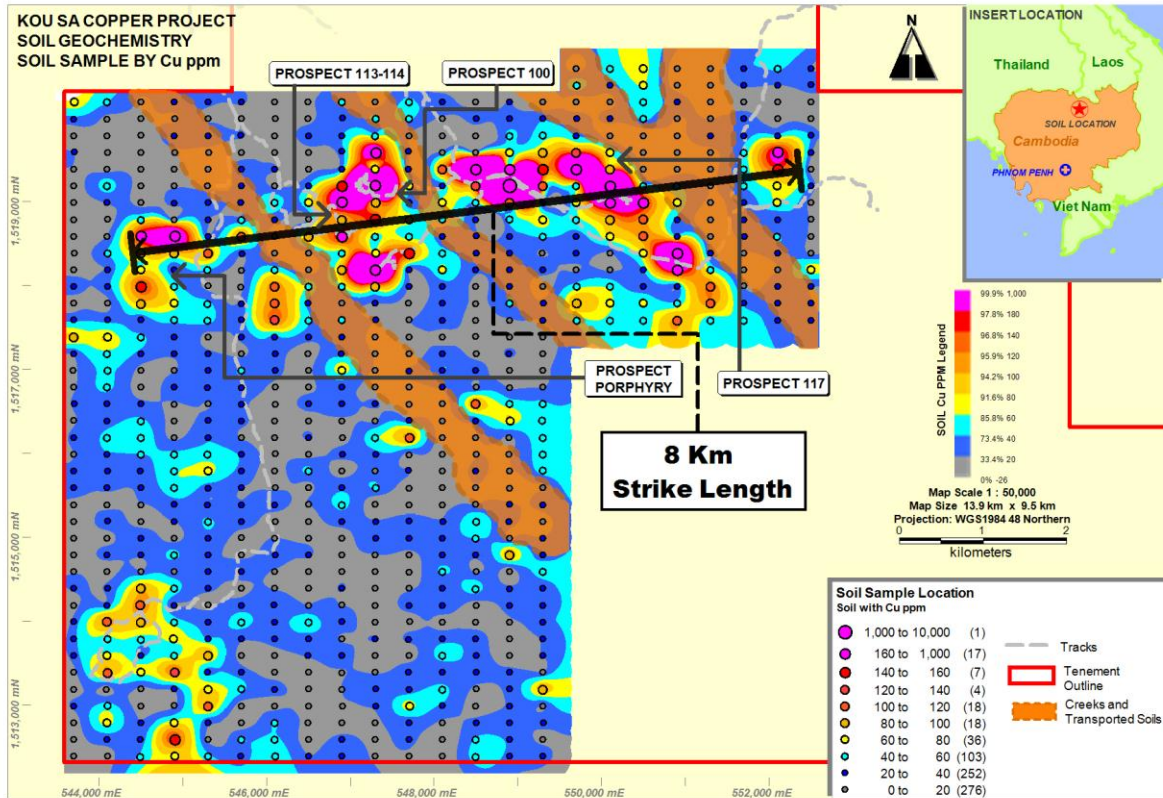

Figure 1: Kou Sa soil geochemistry survey results indicating an 8km long east-west anomalous trend.
Analysis of the geochemical survey results indicates a cohesive eight (8) kilometre long anomalous trend and several other significant but smaller anomalous zones. The main zone connects the areas previous drilled which indicates the effectiveness of the sampling method. In addition the survey results extend beyond these areas in both directions to form a cohesive zone of east-west anomalism that joins the 100 and 117 Areas (*See Figure 1*). It was previously suspected but not confirmed that these zones were related.